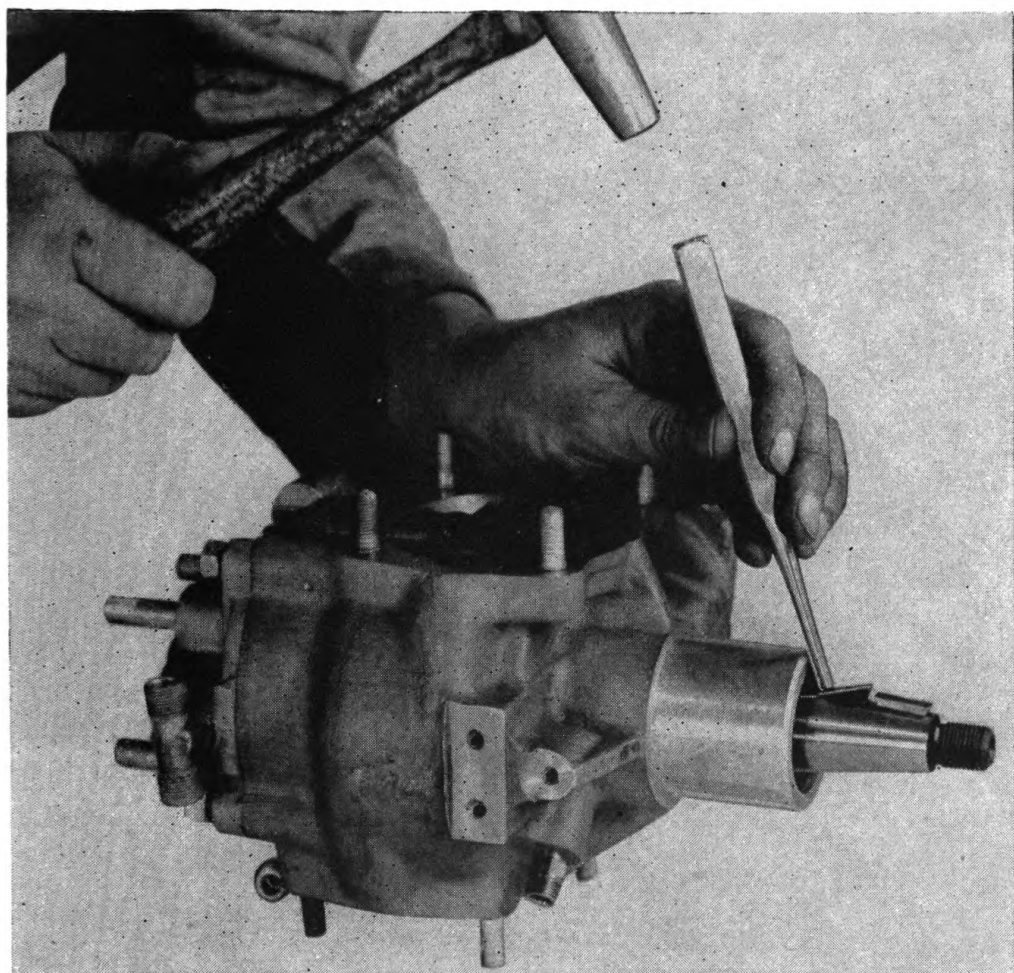

Figure 107. Removing flywheel keys with small flat-end punch and hammer.
g. **TO REMOVE CRANKSHAFT FROM CRANKCASE.** (1) The flywheel keys first must be dislodged, as they protrude beyond inside diameter of bearing. Both keys can easily be driven out of keyways by a small, flat-end punch as illustrated in figure 107, taking care not to nick or gouge the crankshaft taper. If accidentally nicked, simply dress down with file prior to withdrawing crankshaft from bearing. Keys can be removed before detaching crankcase assembly from drive-shaft casing.